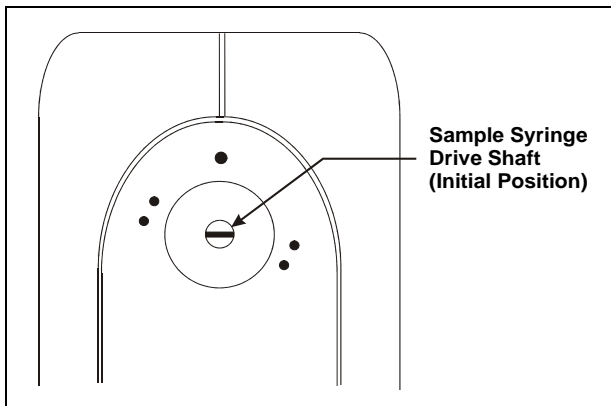

Figure 5-22. Sample Syringe Drive Shaft Initial Position
3. When the valve is removed, the syringe drive shaft is visible. When the syringe is in the initial position (the position selected when the valve was removed), the slot in the drive shaft should be horizontal (see Figure 5-22).